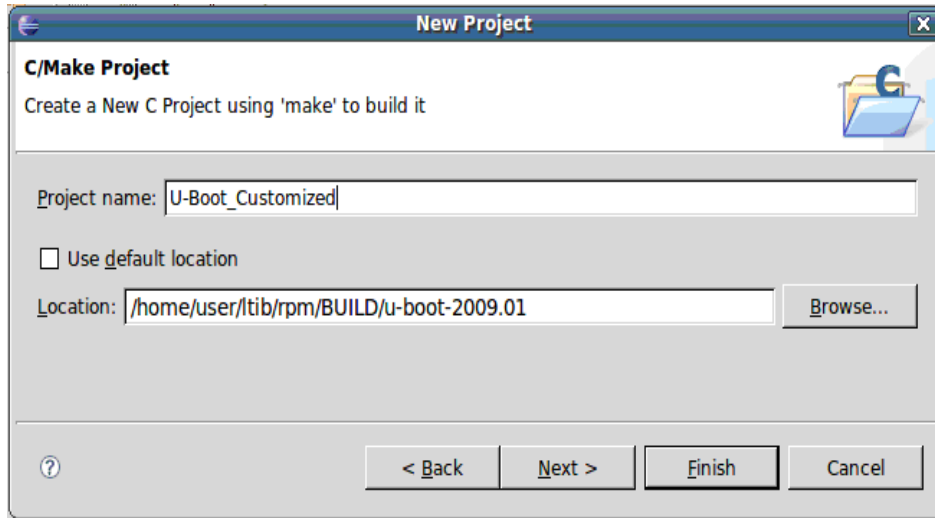

Figure 2. Project Name and Location
6. Click on the Browse button to search for the path where the U-Boot source code is located. (See Figure 2)
Figure 2 shows the name and location of the project.